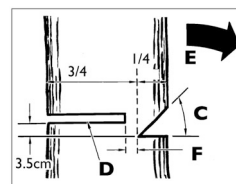

Fig. 10B
**WARNING:** Never walk in front of a tree that has been notched. Make the felling cut (D) from the other side of the tree and 3-5cm above the edge of the notch (C) (Fig. 10B).